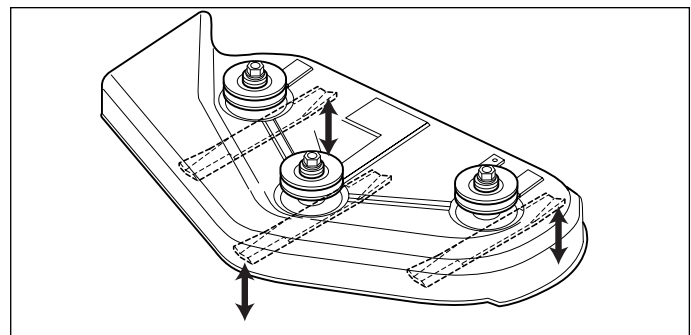

Figure 18. Orient Blades Front-to-Back
6. Arrange the blades so they face front-to-back (Figure 18).